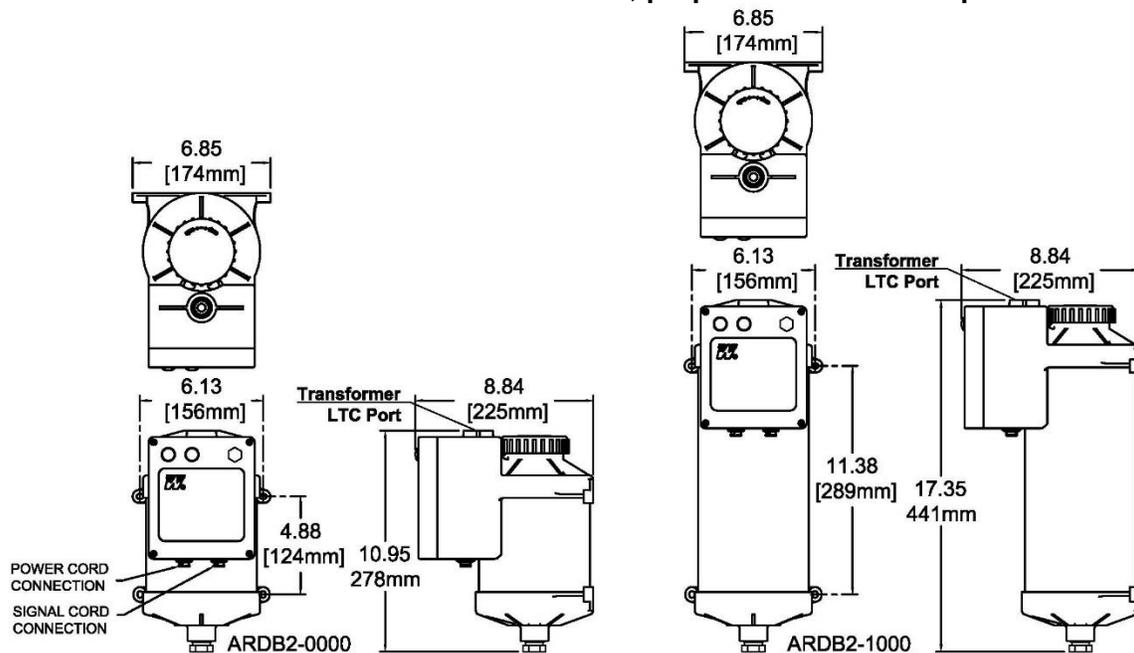

Figure 2 – ARDB2 Mounting Dimensions
- 1) Measure and mark the mounting holes or studs as shown by the center-to-center distances in Figure 2 above.